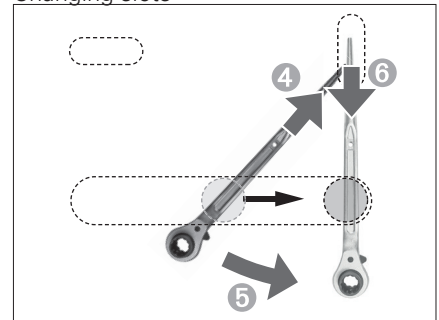

Fig. A4.18b
6. Remove the scaffold ratchet. (Fig. A4.18b)